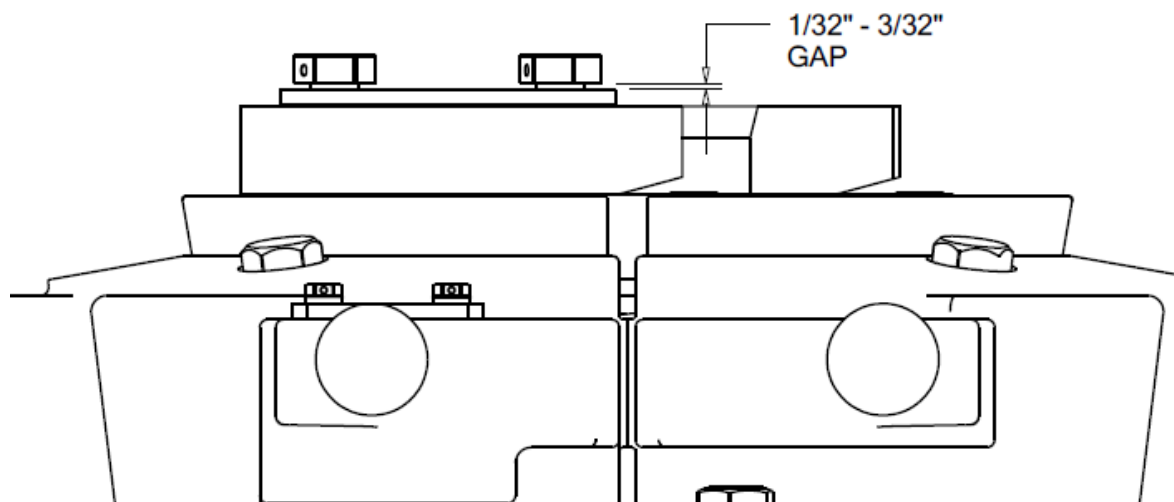

Figure 2
- ▶ Tighten all insert retainer screws. Then tighten the setting plate bolts to a maximum torque value of **20 ft-lb.** ensuring there is a **1/32” to 3/32” gap** between the underside of the bolt head and the washer or setting plate retainer. **(See Figure 2)**